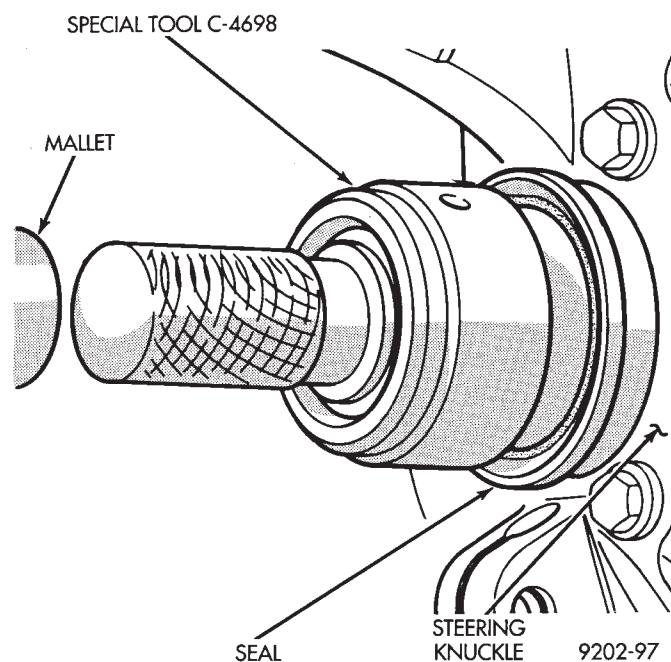

Fig. 11 Seal Installation In Steering Knuckle
(2) Position new seal in recess on back of the steering knuckle. Assemble Installer, Special Tool C-4698. Then install seal into steering knuckle until it is fully seated into recess (Fig. 11). Inspect the wear sleeve on the C/V joint housing and replace if required.